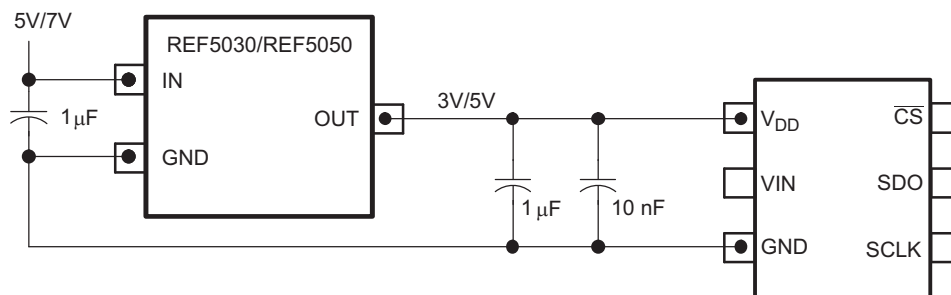

Figure 26. Using the REF5030/REF5050 Reference
- A reference output from a low drift and low drop out reference voltage generator like the REF5030 or REF5050. The ADS7883 can operate with a wide range of supply voltages. The actual choice of the reference voltage generator depends upon the system. Figure 26 shows one possible application circuit.